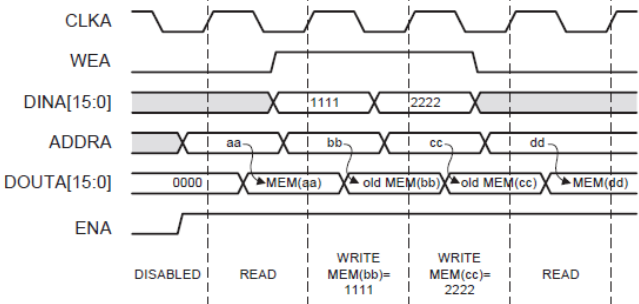

Figure 3-10: Read First Mode Example
- **Read First Mode:** In READ\_FIRST mode, data previously stored at the Write address appears on the data output, while the input data is being stored in memory. This Read-before-Write behavior is illustrated in Figure 3-10.